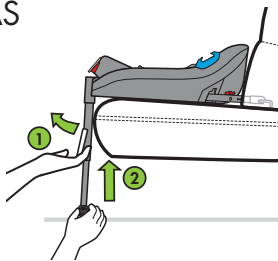

Figure 51
Adjust Load Leg to shortest position by pulling out and holding bottom of Load Leg Adjustment Handle (1) while pushing up on bottom of Load Leg (2), as shown in **Figure 51**.